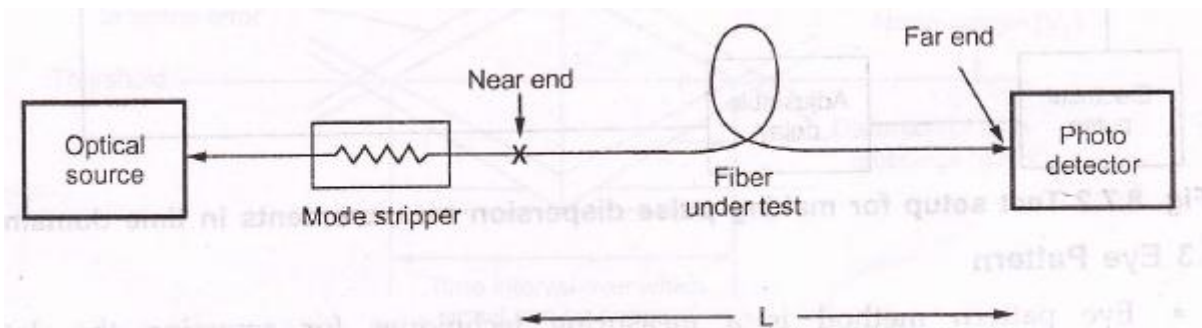

Fig. 8.7.1 Experimental setup of cutback method
- Cutback technique is a destructive method of measuring attenuation. It requires access to both ends of fiber as shown in Fig. 8.7.1.